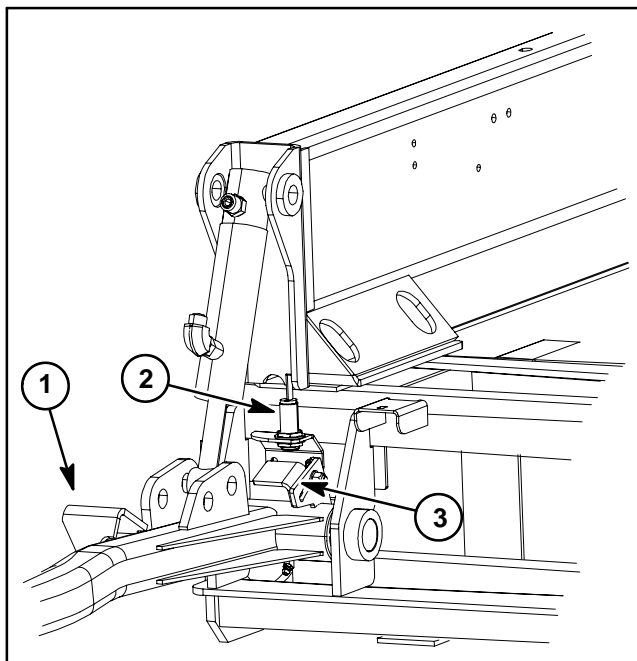

Figure 59
Three (3) cutting deck position switches are used on the Groundsmaster 4000-D and 4010-D. These switches are located on the traction unit frame (Figs. 59 and 60). The position switches are powered proximity switches that incorporate an internal reed switch and a LED. The deck position switches are used as inputs for the TEC-5001 controller to prevent deck operation when a cutting deck is raised. The switch sensing plates are attached to the cutting deck lift arms. The position switches for front and side decks are different.